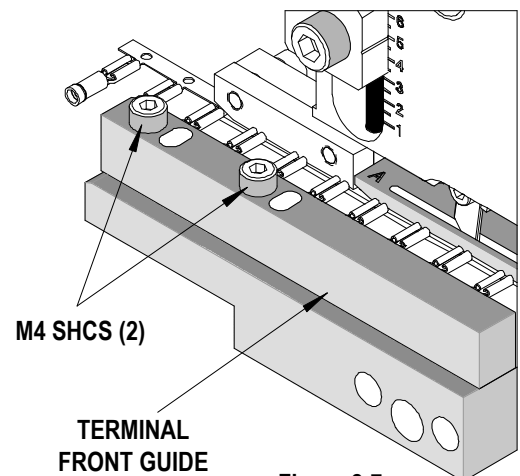

Figure 2-7
- Using a 3mm hex wrench, loosen the (2) M4 SHCS holding the guide in place. See Figure 2-7.